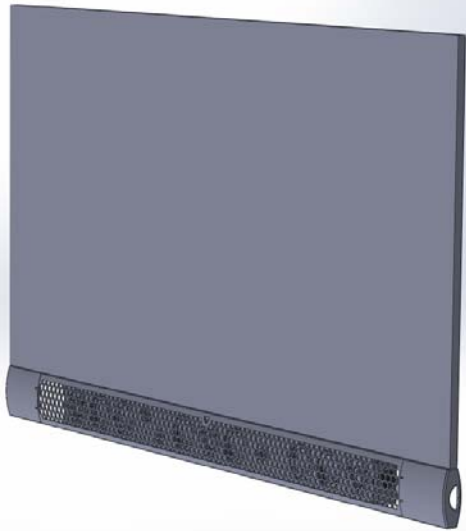

FIGURE 12
16. Attach the grille to the cabinet by slipping the grille around the cabinet. You will feel a click as the grille seats. See **FIGURES 12 & 13**.